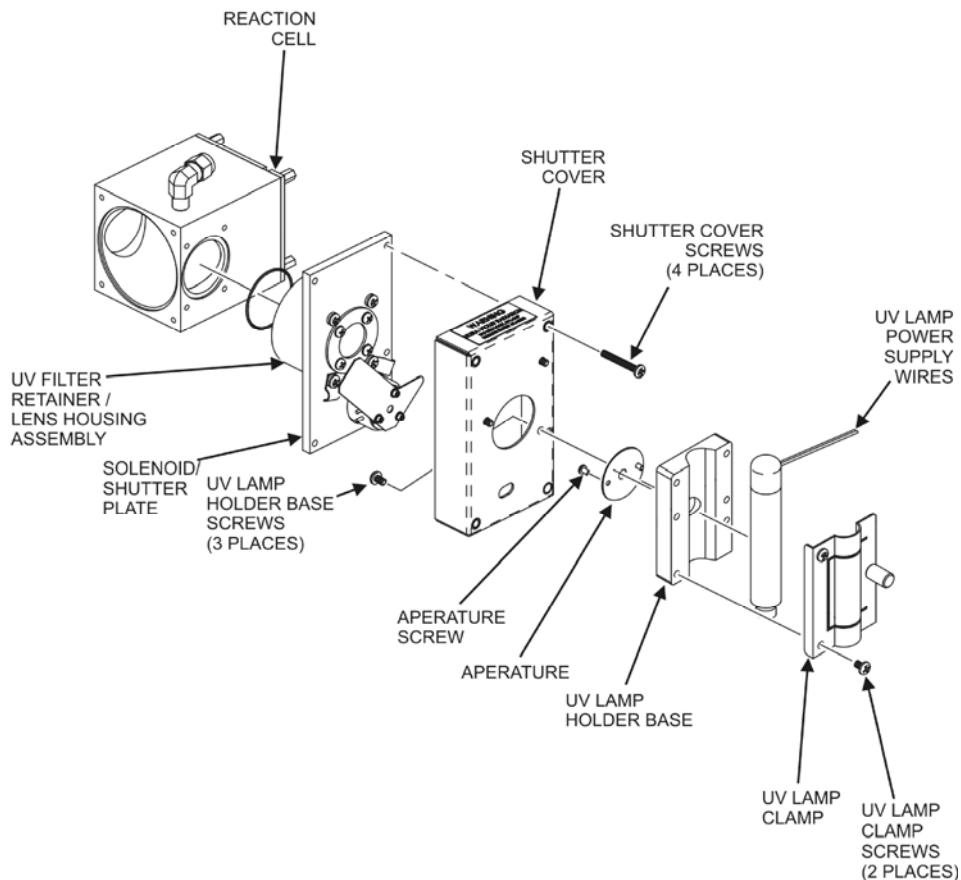

Figure 11-4. Shutter Assembly
2. Slightly loosen the large brass thumbscrew located on the shutter housing (refer to Figure 11-4) so that the lamp can be moved.
5. Locate the Following Components On the Preamp board (Figure 11-4):